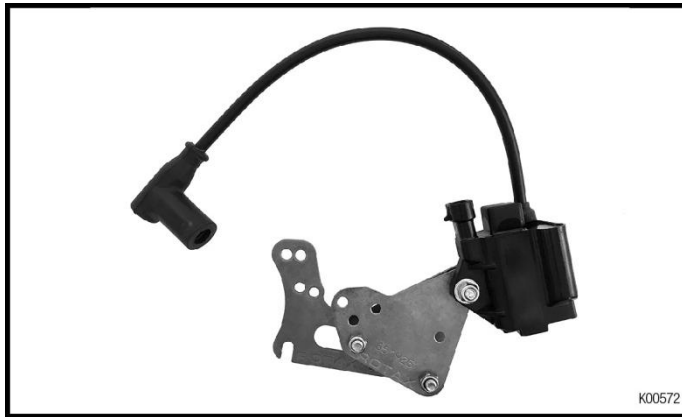

Fig. 12
- ◆ **Note:** The retaining plate, the mounting plate, the solenoid valve (except engines without exhaust slide, Fig. 12) and the ignition coil are already pre-assembled.